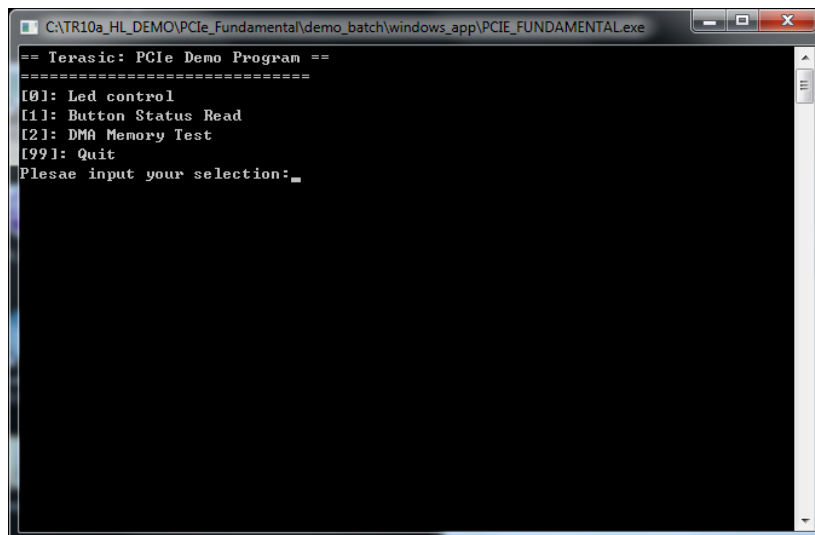

Figure 7-11 Screenshot of Program Menu
6. Goto windows_app folder, execute PCIE_FUNDMENTAL.exe. A menu will appear as shown in Figure 7-11.